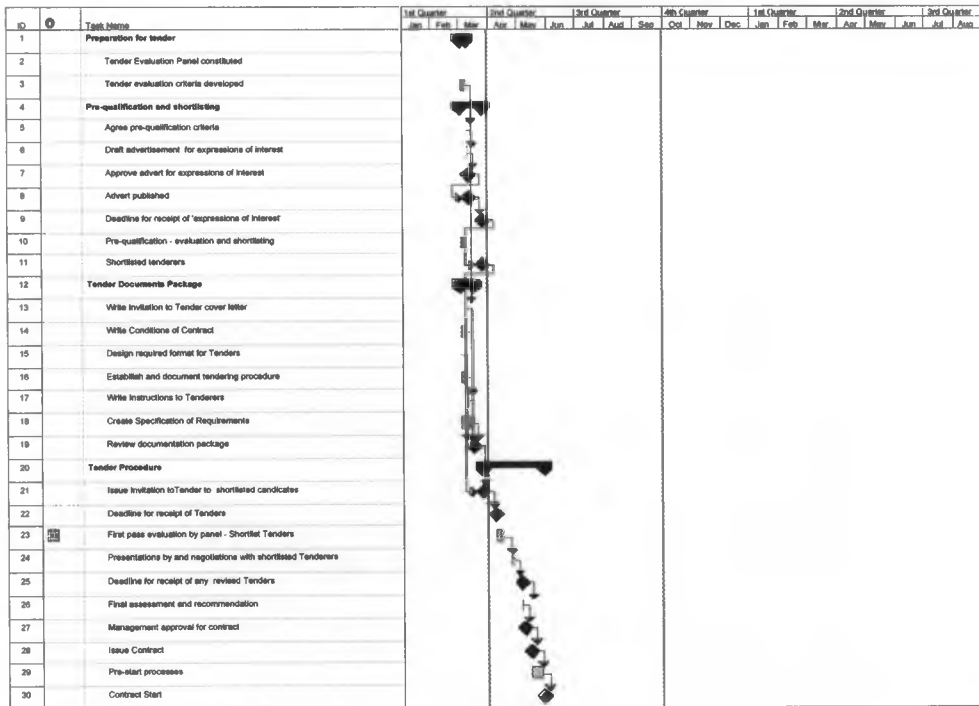
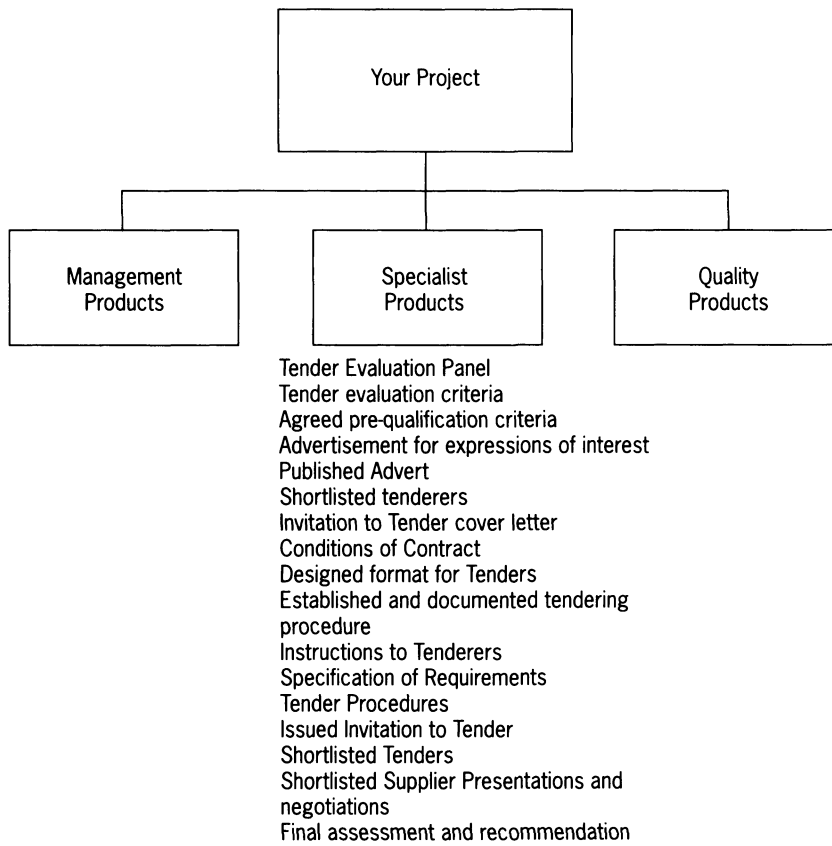

Figure 107 The four products, showing as 'Summary Tasks' containing the tasks needed to create them, and now showing durations, sequence and dependencies
Figure 109 Combination of diagram and lists (specialist products only)
10. Next, you will need to work out the sequence and any dependencies between the tasks. Estimate the duration of each, based on the size of each task and the skill level(s) of the resources available to do the work (see Figure 107). Note that for most software planning tools the default for dependencies is 'Finish to Start', and this is implied on a Product Flow Diagram. Once you have drafted the Gantt chart, you may need to check whether 'Start to Start', 'Finish to Finish' or 'Start to Finish' might be more appropriate for some aspects of your plan and adjust it accordingly.
You can produce your PBS as a diagram similar in form to an organization chart, as in Figure 107 above, but may also find a structured list, or a combination of these two approaches helpful. It is common practice to use a diagram for the top levels, with lists of products below each main product-type as in Figure 109.